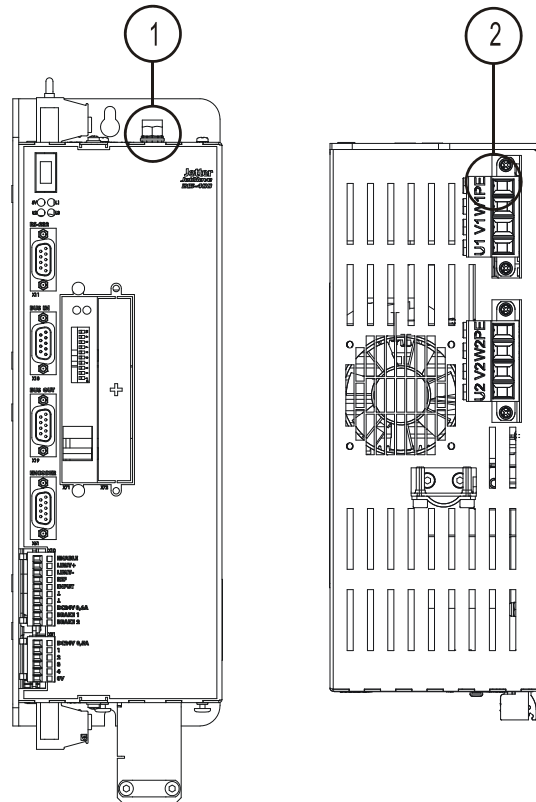

Fig. 1: Double earthing
- The protective earth bus has to be connected to the PE (GND) bolt (1) located at the top side of the rack as well as to the PE (GND) terminal X1 (2) (please refer to Fig. 1).
- Connect the earth to the cover. For this please refer to Fig. 1 on Page 15.